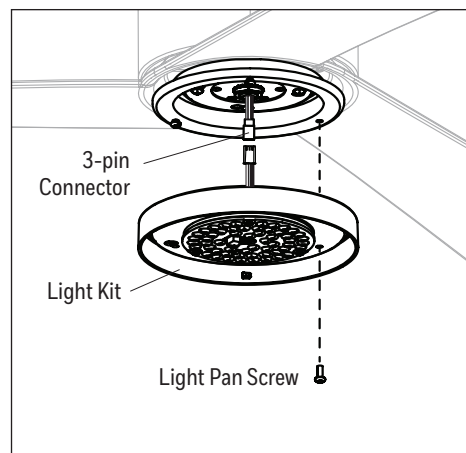

Figure 5.5
- Note:** To install the fan without the light kit, skip to 5.9. Remove one of the three light pan screws from the light pan and loosen the other two but do not remove. Connect the 3-pin connector from the light pan to the 3-pin connector from the light kit. Lift the two keyhole slots in the light kit over the two loosened light pan screws and turn in a clockwise direction. Then, use the previously removed light pan screw to secure the light kit to the light pan. Tighten all screws (Figure 5.5).